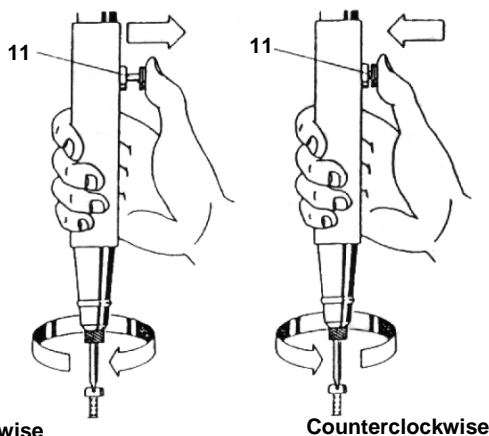

Fig. 6: Reversing the direction of rotation
BIAX pneumatic screwdrivers rotate clockwise. Reversing for counterclockwise rotation is completed by pressing the valve knob (11) (see Fig. 6:).